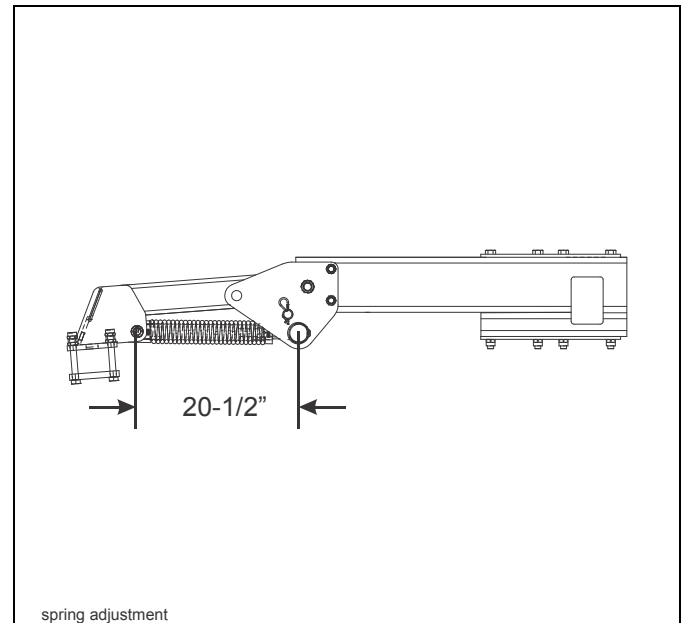

Figure 3-30: Spring Adjustment
4. Adjust spring to 20-1/2" (See **Figure 3-30**.)